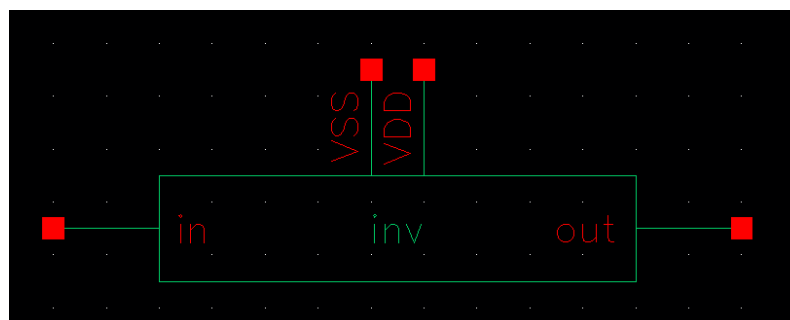

Figure 9: Create symbol
- Click *Creat > Cellview > FromCellview*, and click "OK" in the next two popped out windows. Finally, you will see Fig. 9. You can change the shape and name of the symbol by using previous introduced editing commands.